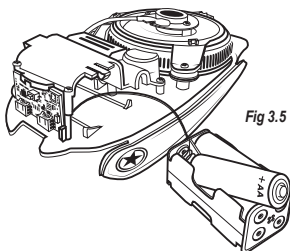

Fig 3.5
- Load in the (4) AA batteries, matching the polarity on the battery to the symbols on the Battery Pack (Fig 3.5).